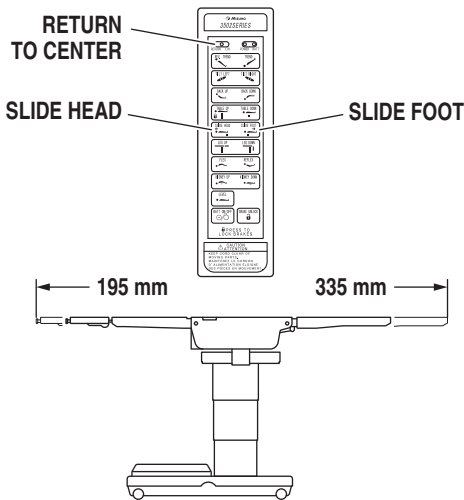

Figure 2-13. Top Slide
f. Top Slide To move the table top toward the head end, press the SLIDE HEAD button. From center position, the top will slide up to 195mm. See figure 2-13.